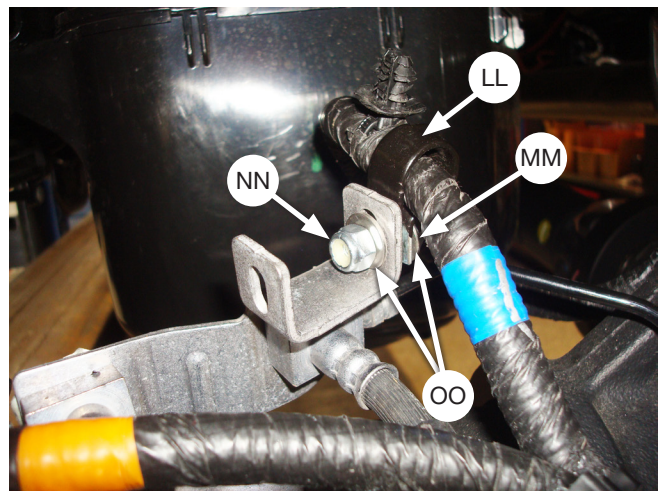

Fig. 23
3. Install the P-clamp (LL) around the right ABS harness and attach the P-clamp to the inside hole on the bracket section that was just bent (Fig. 23) using the 1/4" hex screw (MM), 2 flat washers (OO) and nylon lock nut (NN).